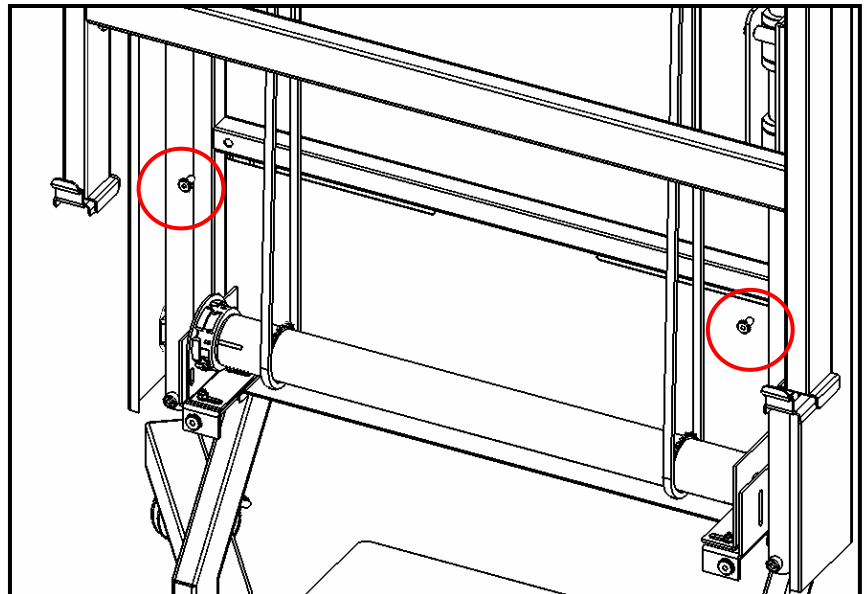

Figure 4.3
- 2) Screw and tighten two screws **(H)** towards Mid-Section with Allen Key **(F)**. (See figure 4.3)